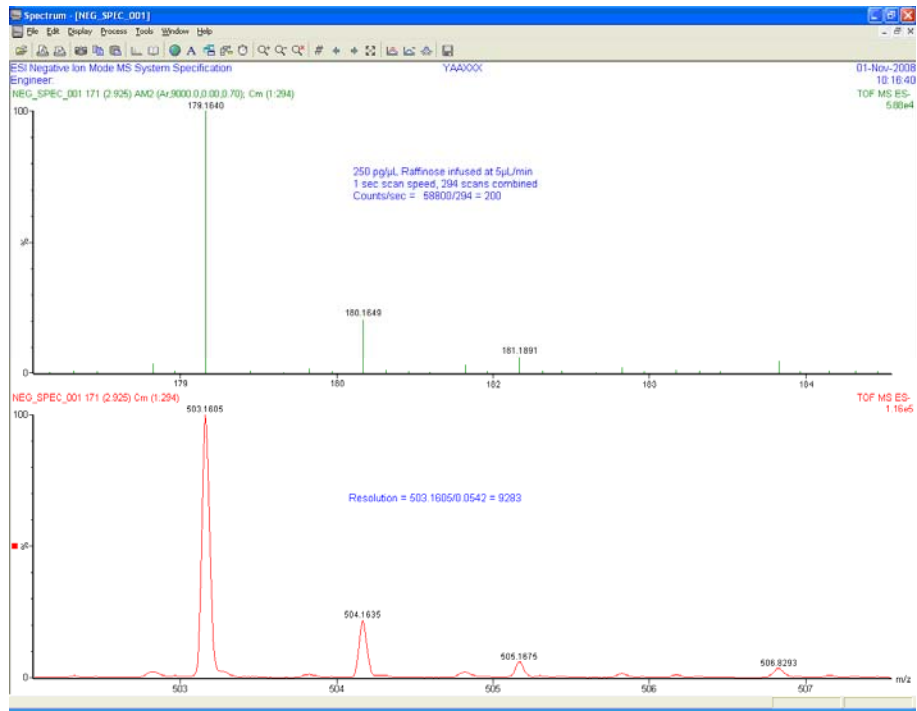

Figure 55 - Annotated spectra for Negative Ion mode MS system specification
**NOTE:** Record the results of all three runs in the performance specification in the appropriate system installation checklist with the data properly printed and annotated, as in Figure 55.